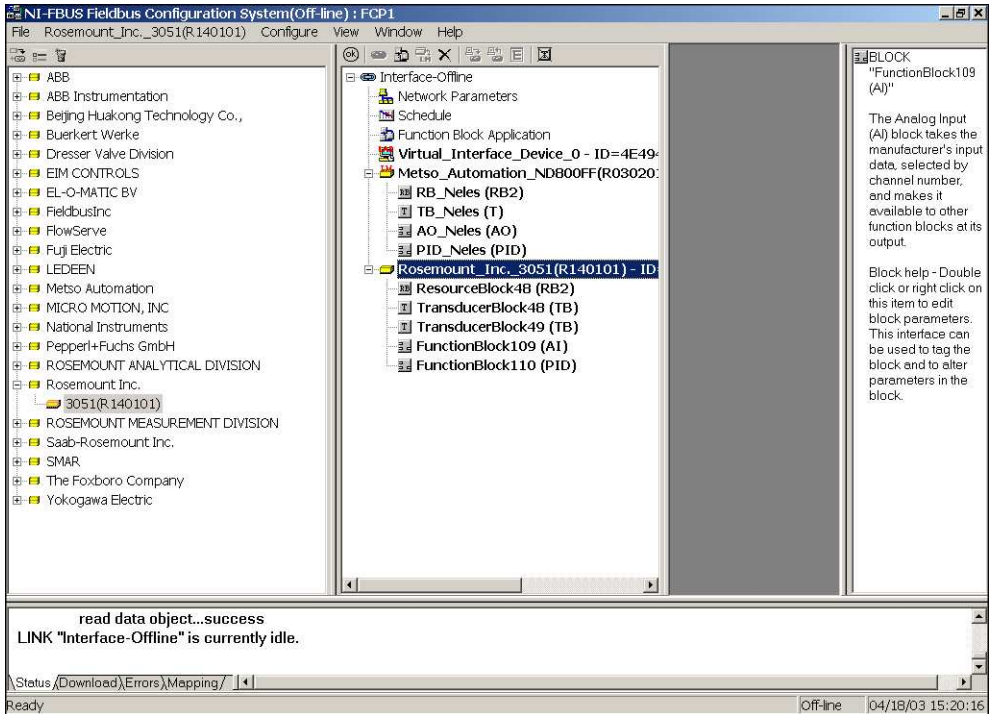

Figure 3-7. Virtual Devices Added Into Fieldbus
- The NI-FBUS Offline Configurator creates a virtual interface and multiple virtual devices added by the user. The virtual devices are created from DD and CFF files. If you provide incorrect DD or CFF files, the corresponding virtual device may not work properly, as shown in Figure 3-7.